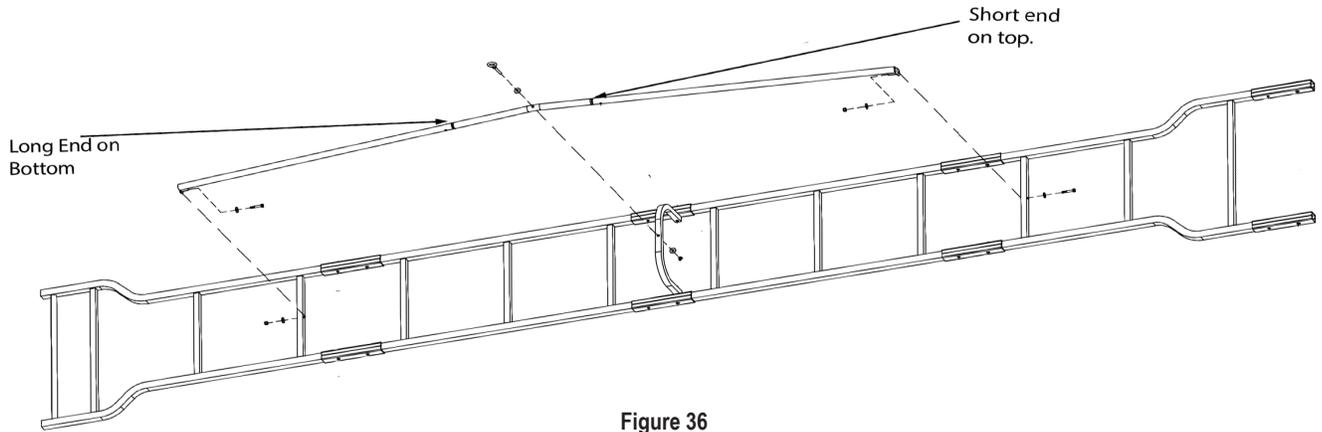

Figure 36
STEP 5: NOTE: One end of the bridge support is shorter than the other and the short end must go towards the top of the ladder. Assemble the bridge support to the ladder starting with one (1) $\frac{1}{4}$ " eye bolt, two (2) washers, and one (1) nut to connect it to the bridge support U brace. Next attach each end of the bridge support to the holes in the ladder rungs using two (2) $\frac{1}{4}$ " x 1-1/2" bolts, four (4) washers and two (2) nuts as shown in Figure 36. Tighten the eyebolt first and then the bolts on each end.
STEP 6: You can now attach the top of the ladder to the ladder adapter on the bottom of the platform using the four (4) ladder connectors that are already attached to the top of the ladder, two (2) $\frac{5}{16}$ " x 2" bolts, four (4) washers and two (2) nuts. You can now tighten the bolts.